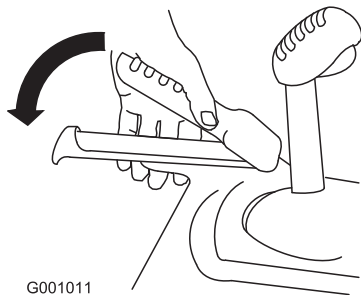

Figure 13
3. Squeeze the left (traction) lever to the handgrip (Figure 13).
6. Squeeze the left (traction) lever to the handgrip (Figure 13).